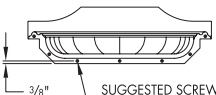

FIGURE 3
3. Secure the shelf to the tub using drywall screws at the locations suggested (SEE FIGURE 3). The screws should be approximately 3/8" from the outside edge of the shelf. Make sure that the shelf does not move when driving the screws. Wipe off all excess adhesive and proceed to installation instructions.